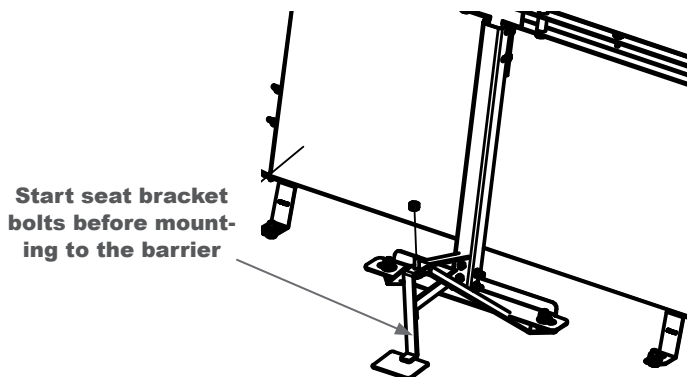
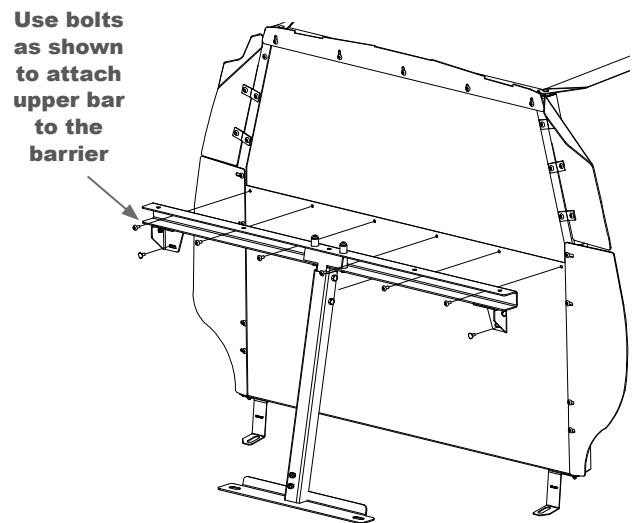

Fig. 2
Fig. 3
B. The 2nd row OEM seat should be removed from the vehicle at this time. Find the mounting nuts on the floor board and remove with a 18mm socket. Remove the screws on the barrier that hold the bottom portion of the window. Place the support bar assembly into position inside the vehicle (Fig. 2) and use the supplied (3X06) phillips head screws to hold the outboard seat belt cross bar to the barrier. (Fig. 3) Now attach the driver (3S5715-02) and passenger (3S5715-03) seat belt support brackets to the main seat belt bracket and re-install the two OEM nuts onto the threaded studs to secure the entire assembly.
- C. Move the driver's seat all the way forward and loosen the driver's seat mounting bolt as shown in fig. 3. (Removal of the passenger side bolt is not necessary!) Push and lift on backside of seat to slide the (3PK5715-10) center support bracket underneath the driver's seat track and reinsert OEM bolt to secure.